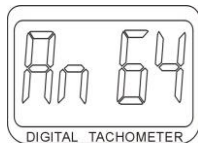
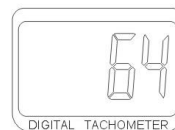

Fig.3
Fig.4
**eg.:**the displaying is "An 64 " when 64s of measuring data is stored in one measuring (see fig. 3). The tachometer will display the stored data in turn by pressing the memory button. The first value is 350.3 RPM and the second 317.1 RPM, analogically the 64th value is 337.0 RPM (see fig. 4).